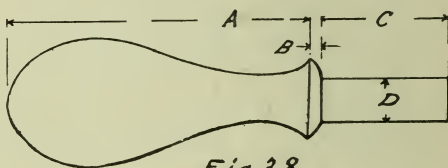

Fig. 38.
**No. 7. (Fig. 38.) Curve Work.** Lathe Handle. Made from Machinery Steel stock, on centers. Selected by the instructor.